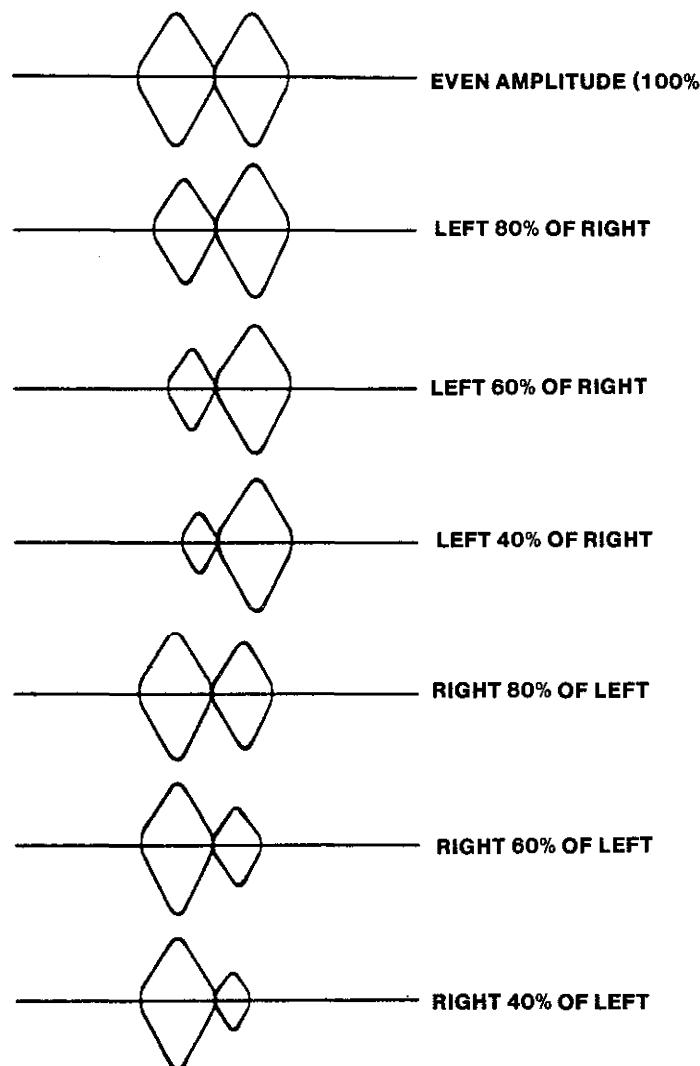

FIGURE 5-4
8. Adjust the oscilloscope to observe a Cats Eye pattern (Figure 5-4).
4. Turn the cam screw until the Cats Eye patterns are equal in amplitude (Figure 5-4).